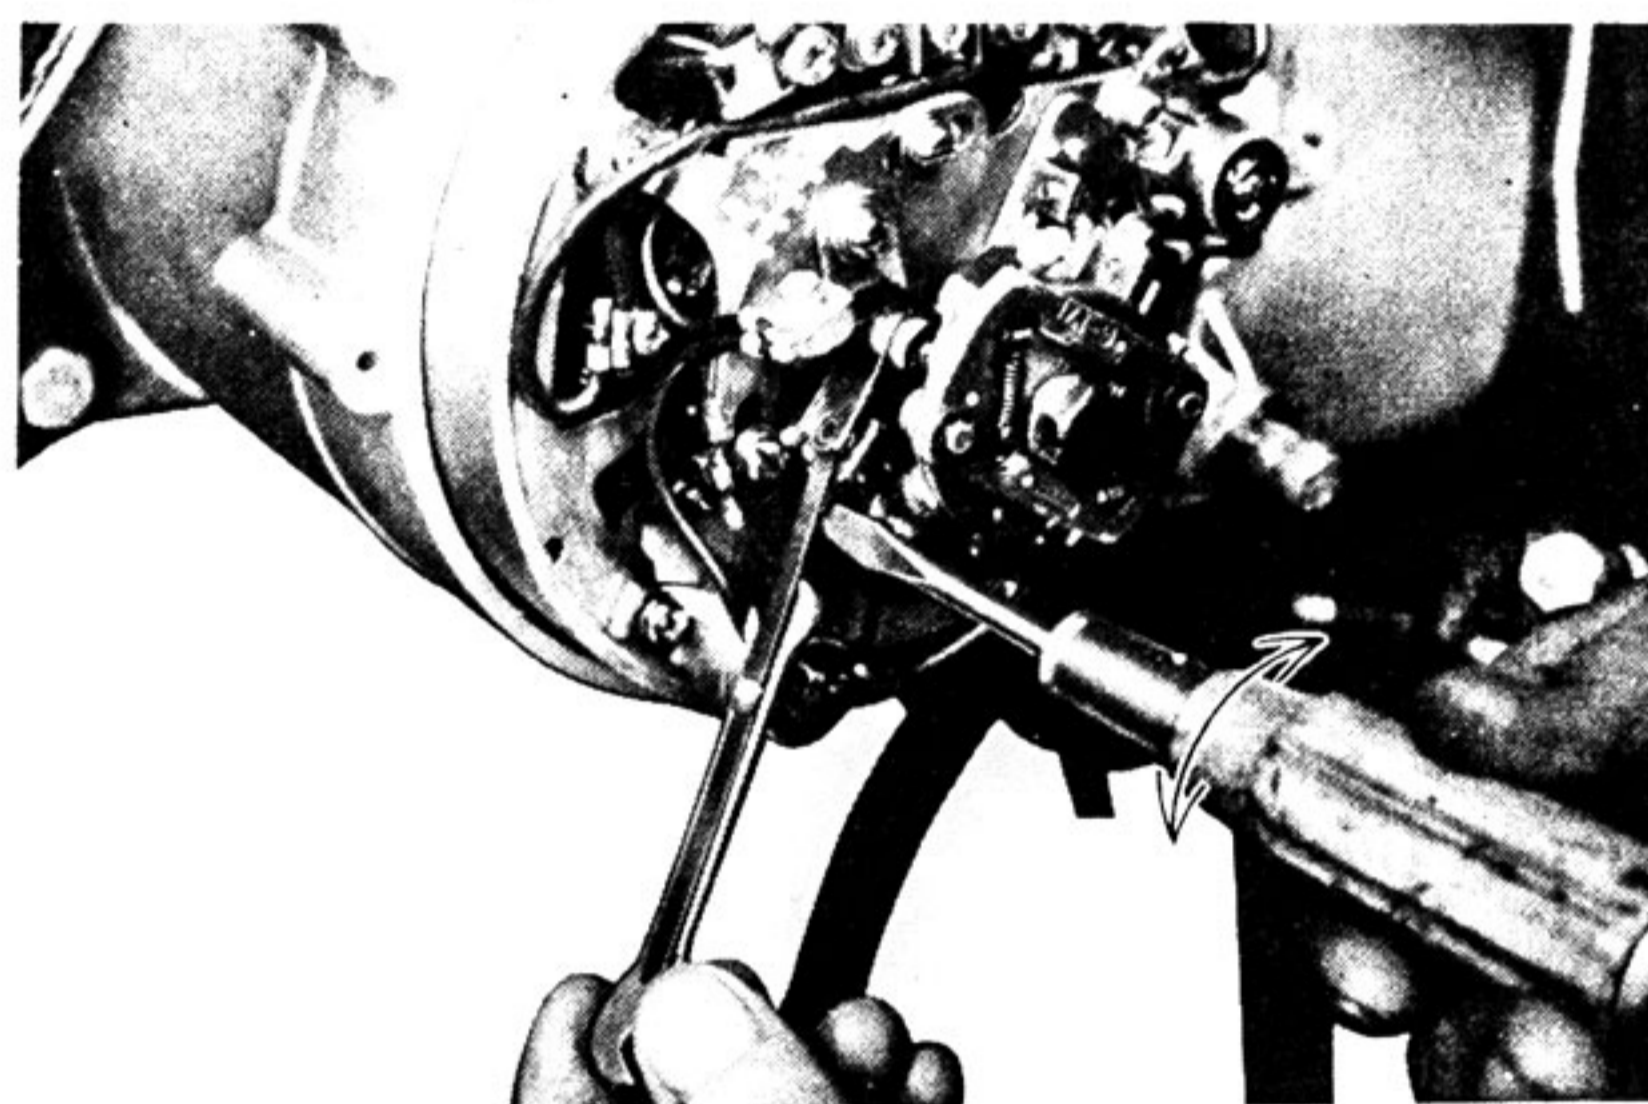

Fig. 6-5-13
(2) Adjust ignition timing separately for the right and left cylinders.
(3) Rotate the armature until the points are at their widest opening. Adjust point gap with a feeler gauge to 0.30 ~ 0.40 mm (0.011 ~ 0.016 in.). Repeat this procedure for each set of points. (Fig. 6-5-13)